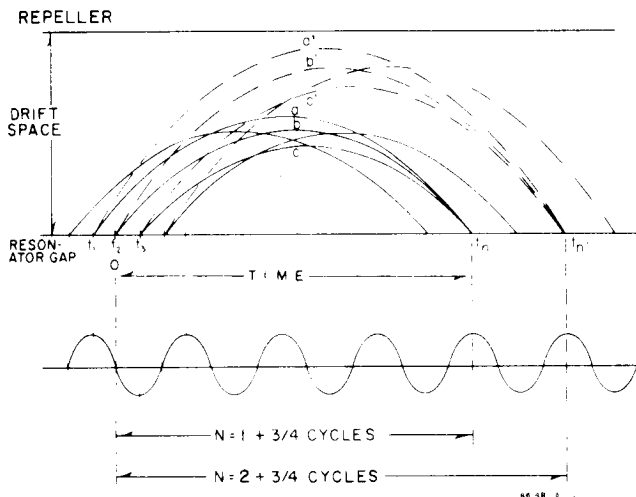

Figure 4-5. Bunching of Electrons
4-17. This bunching of electrons is illustrated in Figure 4-5, which shows the transit time relationship of electrons while in the drift space between the resonator grids and the repeller. Consider an electron (a) leaving the grids at time t_1 . The voltage of the RF signal on the grids is such that the electron receives energy and is accelerated into the drift space. It arrives back at the grids at time t_{11} . An electron (b) leaving at time t_2 receives no acceleration because the RF signal is now at zero volts. Thus electron (b) does not travel as far into the drift space and arrives back at the grids at the same time as electron (a). Electron (c) leaving at time t_3 is decelerated since the RF signal has reversed voltage polarity since time t_1 .
4-19. The time that the electrons spend in the drift space is adjusted by changing the repeller voltage. As repeller voltage is increased in the negative direction, electrons a, b, and c spend less time in the drift space. As repeller voltage is decreased electrons a^1 , b^1 , and c^1 (Figure 4-5) travel farther into the drift space and take a longer time (t_{n1}) to return to the grids. At the low end of the instrument frequency band (up to about mid-frequency), the repeller voltage is adjusted so that the number of oscillations (N) that occur at the grid while the electrons are in the drift space is equal to 1-3/4 cycles. At the high end of the frequency band (above about mid-frequency), the repeller voltage is adjusted so that the number of oscillations equals 2-3/4 cycles. When the oscillator is operating with 1-3/4 cycles drift time it is known as operating in the 1-3/4 repeller mode.